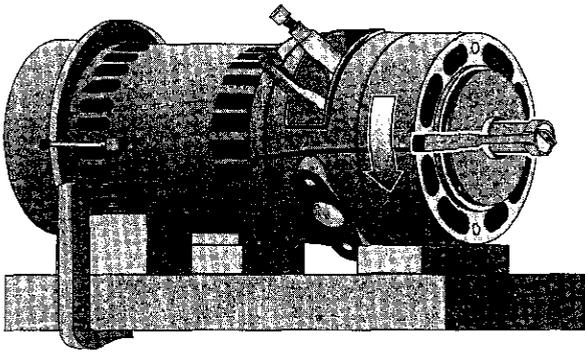

Figure 23
8. Hold the motor shaft with pliers or vice grips through the opening in the pump adapter. Unscrew the impeller nut off the end of the shaft (see Figure 23).